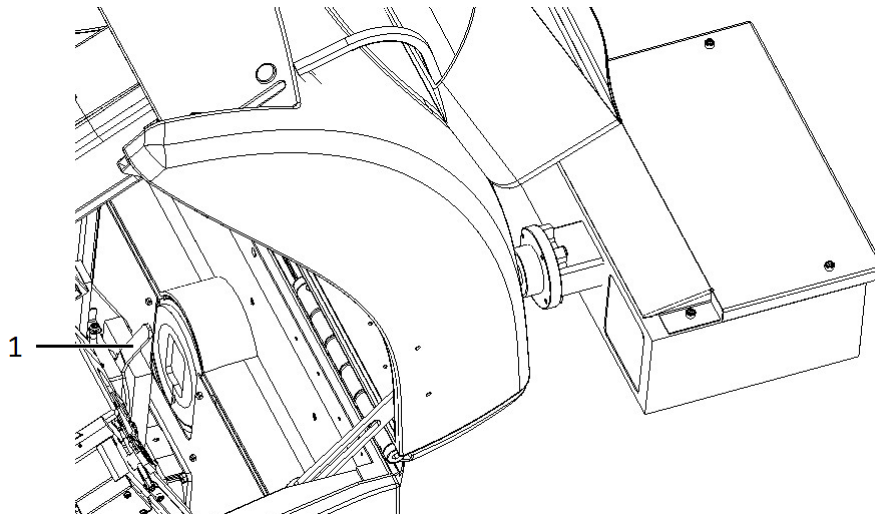

Figure 9 – Positioning locking lever
4. Move the lever (1) to the open position, which is to the right when facing the front of the unit (see **Figure 9**).